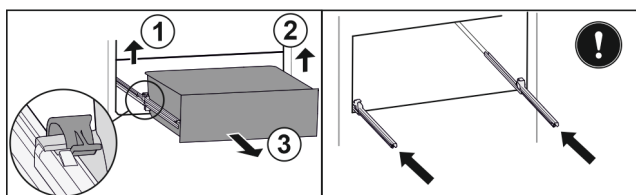

Fig. 92
- Lift left clamp and simultaneously pull drawer forwards on the left. Fig. 92 (1)
- Lift right clamp and simultaneously pull drawer forwards on the right. Fig. 92 (2)
- Remove drawer to the front. Fig. 92 (3)